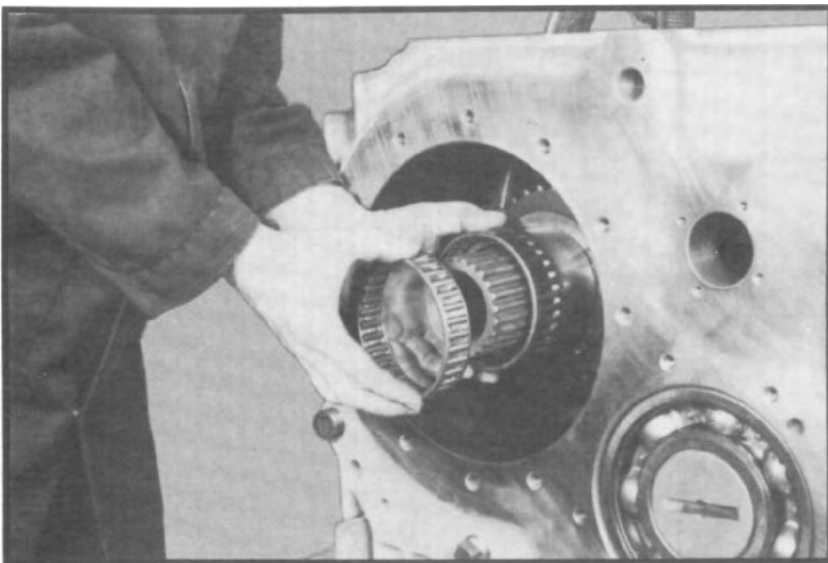

Fig. 118
2.9 Slide the two needle bearing assemblies over the rear of the shaft. The wider needle bearing, first and the narrower needle bearing, last. (See fig. 118.)